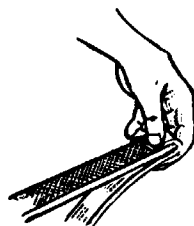

FIG. 2
4. Fold one end of the emery cloth over the end of the file and grip firmly between the thumb and forefinger of the left hand (Fig. 2).